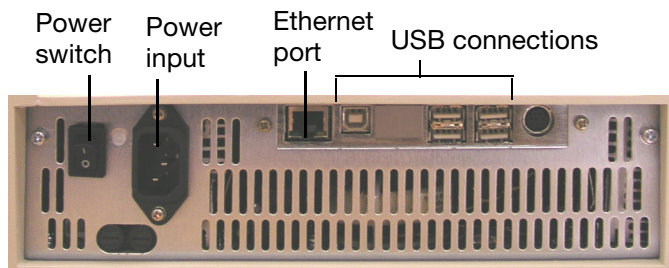

Figure 3. Back panel of C1000 Touch thermal cycler.
The back panel of the C1000 Touch and CFX Connect chassis includes these features (Figure 3):
6. Plug the power cord into the back of the C1000 Touch or CFX Connect chassis (Figure 3) and into an appropriate three-pronged electrical outlet.
1. Connect the C1000 Touch or CFX Connect thermal cycler chassis to the computer by plugging the supplied USB cable (which is sufficiently shielded to prevent data loss) into the USB 2.0 A port located on the back of the chassis (Figure 3) and then connecting the cable to the USB 2.0 B port located on the computer.